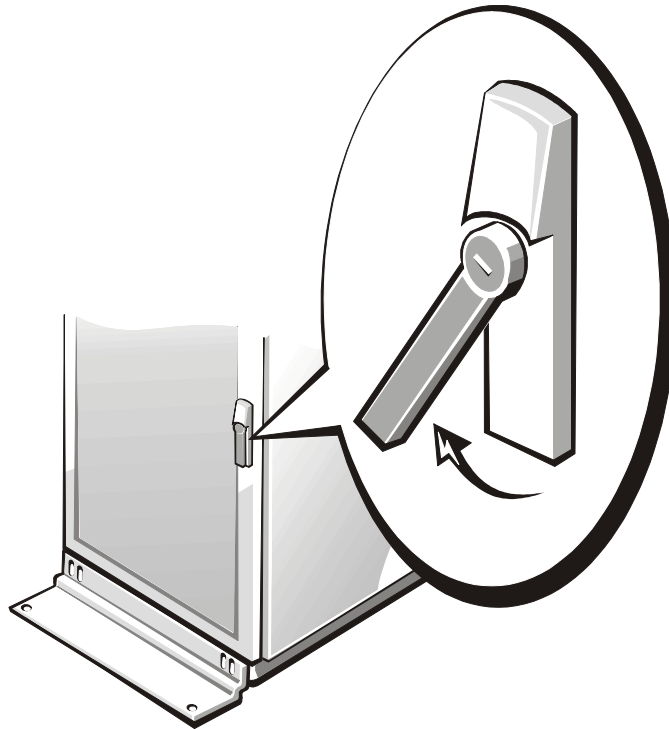

Figure 1-13. Opening the 24-U Rack Door
1. Unlock and twist the handle clockwise (see Figure 1-13).